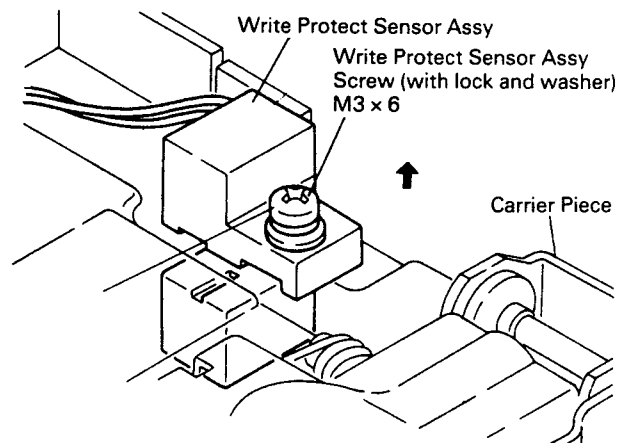

Fig. 4.4.2
3. Remove the Write Protect Sensor assembly screws and remove the assembly by moving it as shown in Fig. 4.4.2.